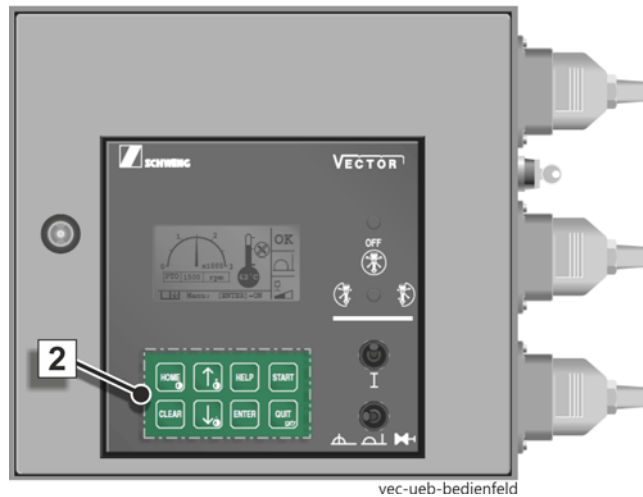

Fig. 66 Control panel
Basic functions of control panel (2) (Fig. 66):